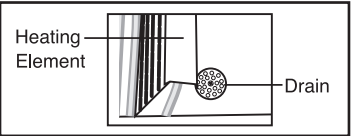

Fig. 8
- 5. Wipe down heating elements with warm water and cloth. (Fig. 8)